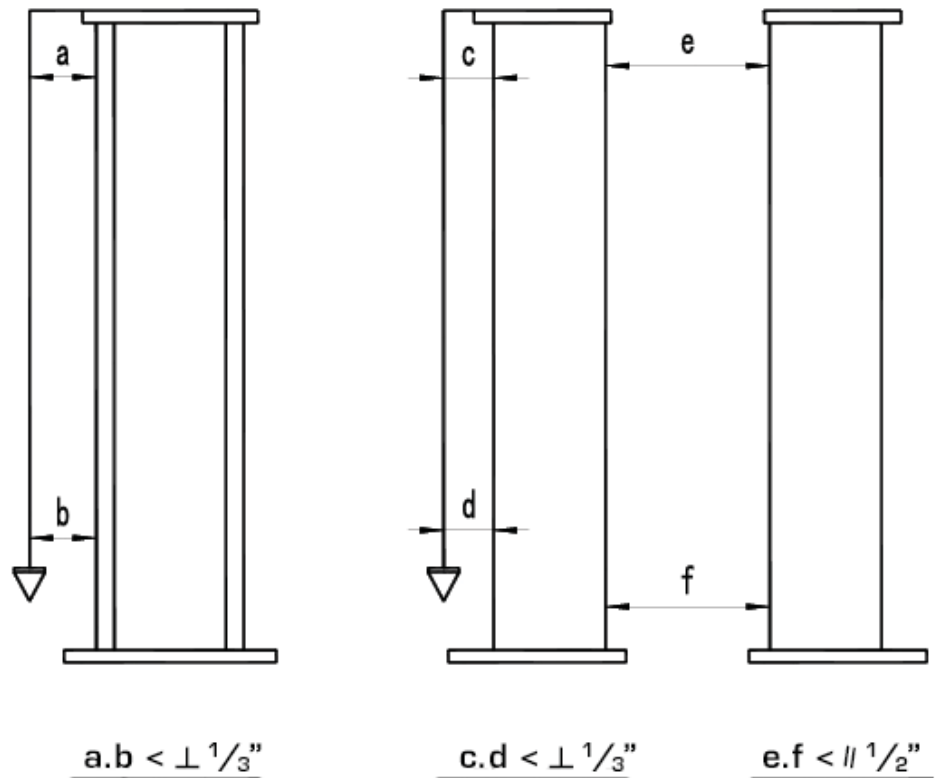

Figure 10
- Make sure the columns are square and plumb as shown in the figure 10.